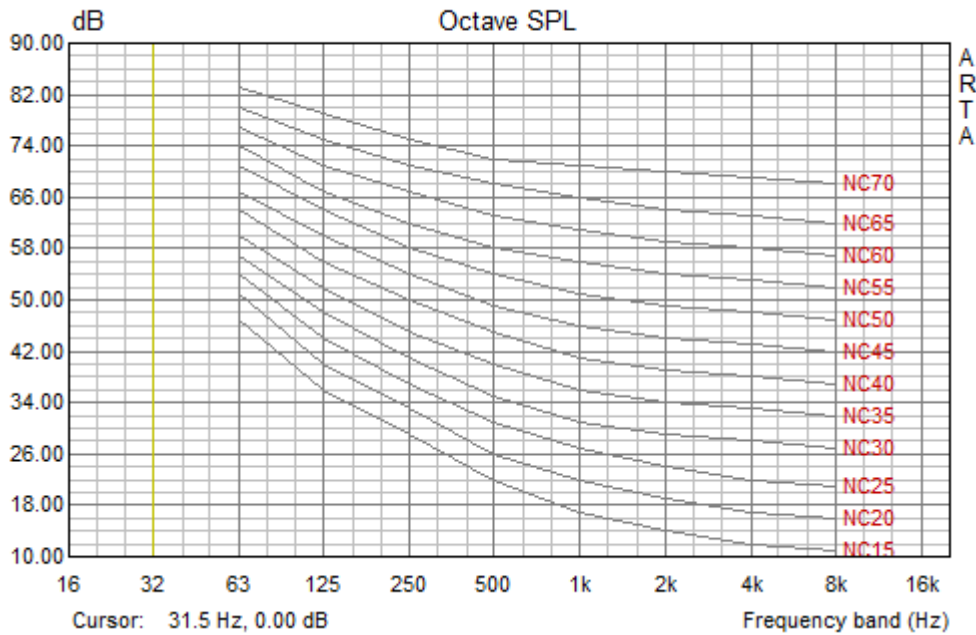

Figure 9.18 Noise criterion curves
Noise criterion (NC) curves (Figure 9.18) were introduced (Beranek, 1957) to evaluate noise in interior spaces such as offices, conference rooms, and homes. The NC rating is determined from the lowest NC curve, which may be drawn such that no point on a measured octave-band spectrum lies above it. Since the NC curves are defined in 5 dB intervals, in between these values the NC level is interpolated.